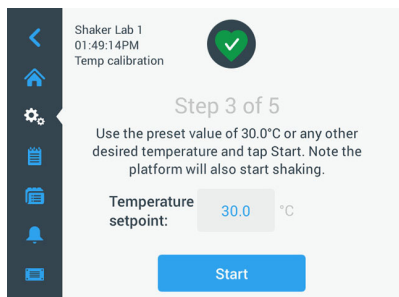

Figure 114: Calibration: Prompt for starting calibration
- » As soon as the screen shown in Figure 114 is shown, compare the temperature reading of your thermocouple regularly. If you deem the temperature stable you can either tap the **Edit** button to correct or tap the **Finish** button to complete the calibration process.